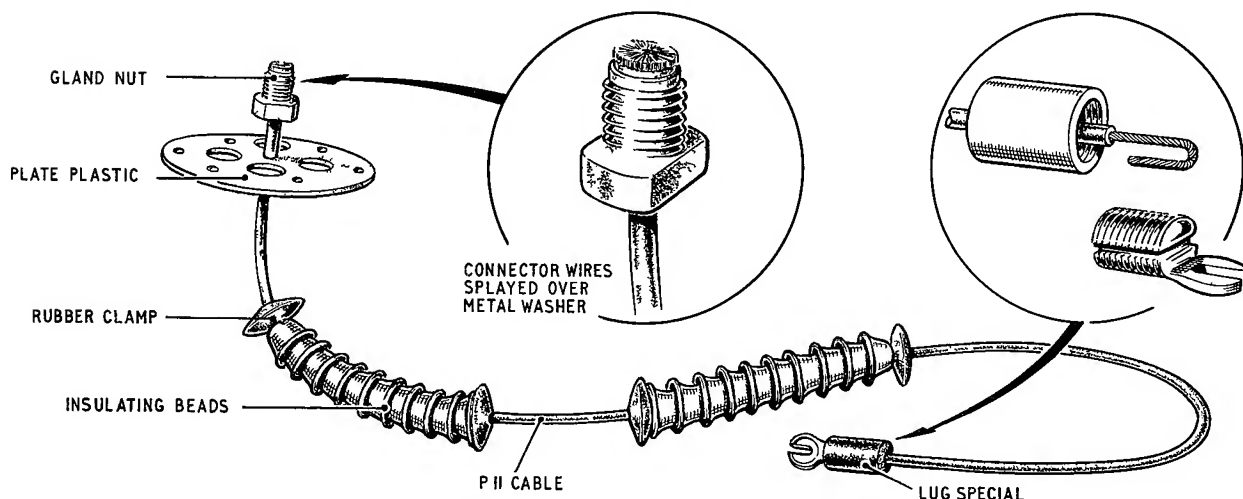

FIG. 30 MAKING THE VEHICLE ANTENNA LEAD
Insulators bowl (5970-99-103-5758)(50)	Used on antenna lead. See fig. 30
Strip the insulation back for half an inch at one end of the cable. Thread this end through the gland nut and washer supplied with it. Splay the wires out over the washer. Tuck them under it to retain them and slide the gland nut up to the washer. See fig. 30. Screw the gland nut into the antenna base using the tool supplied with it.
Strip the insulation for $1\frac{1}{2}$ -in. and twist the wire strands firmly together. Remove the bush from the body of the lug and slip it onto the cable. Fit the wire into the groove in the side of the lug. Screw the bush onto the lug to grip the wire. See fig. 30. Fit the lug to the plug and nut assembly and tighten the terminal to retain it. Insert the plug into the WHIP socket on the tuner RF.